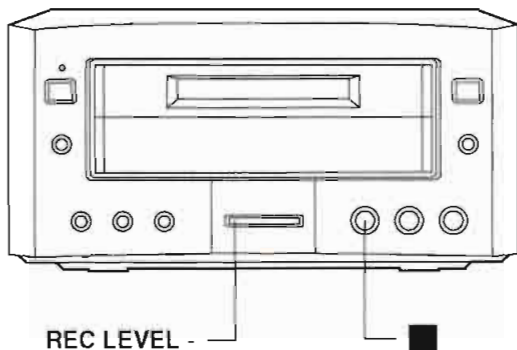

Fig. 6
2. Press and hold  button for at least 2 seconds, and while still pressing  button, press the REC LEVEL - button for at least 2 seconds. Then the unit enters Self Check Function. (Refer to Fig. 6.)